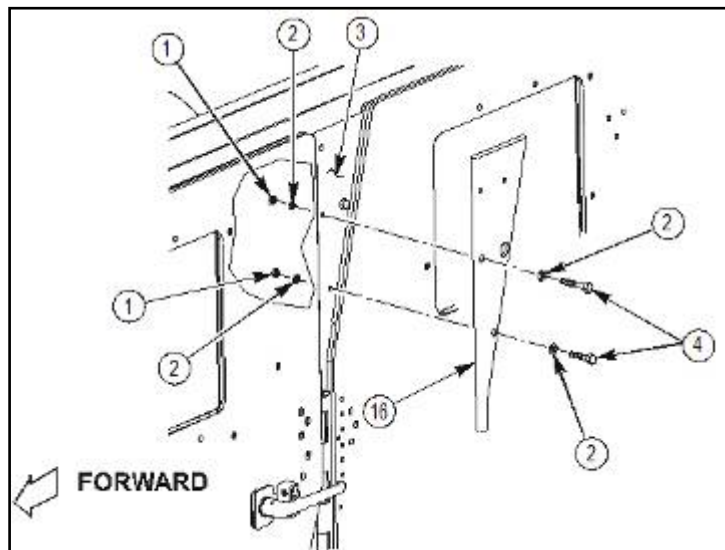

Figure 4a.
1. Remove two locknuts (1), four washers (2), two capscrews (4), and B-pillar aluminum overlay (16) from vehicle B-pillar (3) as shown in figure 4a. Discard all parts.